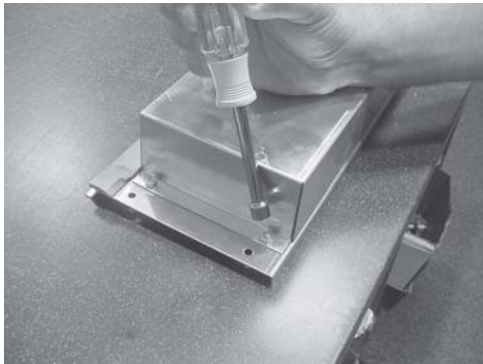

Figure 3-35
3. Using 5/16" socket, remove the 4 nuts securing the control cover and remove cover. Figure 3-35.